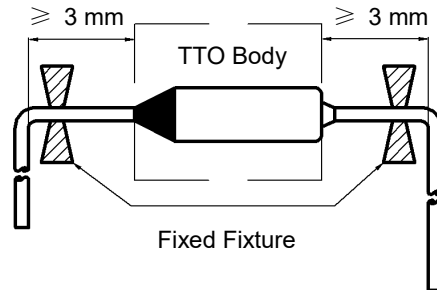

FIGURE 1
2. The lead wires shall be bent at a distance 3 mm or above from the body of TTO (see Fig.1).